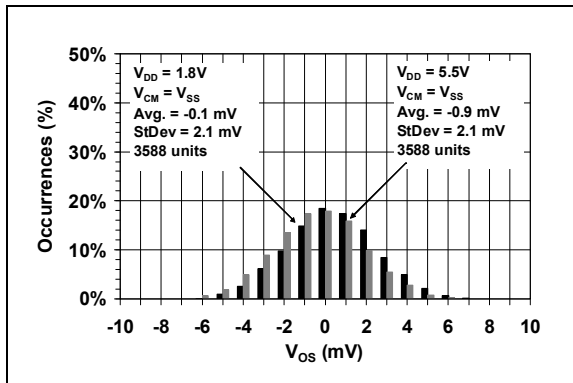

**FIGURE 1-1:** AC and DC Test Circuit for the Push-Pull Output Comparators.
**Electrical Characteristics:** Unless otherwise indicated:  $V_{DD} = +1.8V$  to  $+5.5V$ ,  $V_{SS} = \text{GND}$ ,  $T_A = +25^{\circ}\text{C}$ ,  $V_{IN+} = V_{DD}/2$ ,  $V_{IN-} = V_{SS}$ ,  $R_L = 10$  k $\Omega$  to  $V_{DD}/2$  (see Figure 1-1).
**Electrical Characteristics:** Unless otherwise indicated:  $V_{DD} = +1.8V$  to  $+5.5V$ ,  $V_{SS} = GND$ ,  $T_A = 25^\circ C$ ,  $V_{IN+} = V_{DD}/2$ ,  $V_{IN-} = V_{SS}$ ,  $R_L = 10\text{ k}\Omega$  to  $V_{DD}/2$ , and  $C_L = 25\text{ pF}$ . (see Figure 1-1).